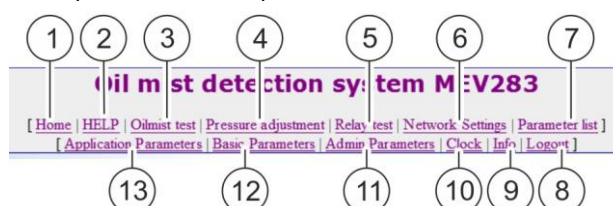

Fig. 44: MEV283 menu bar
1. Click on *"Pressure adjustment"* (Fig. 44/4) in the menu bar.